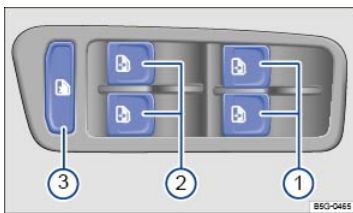

Fig. 37 In the driver door: Switches for the front and rear power windows (4-door version shown).
Key to ⇒ Fig. 37 :
The safety switch \Rightarrow Fig. 37③ deactivates the power windows in the rear doors. The yellow indicator light in the switch comes on (4-door models only).